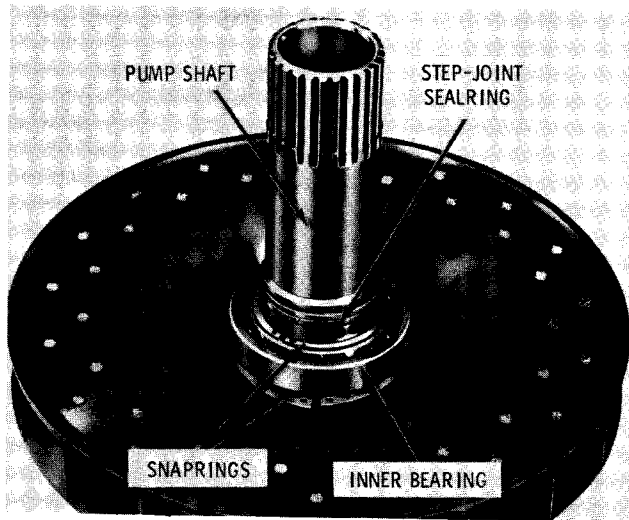
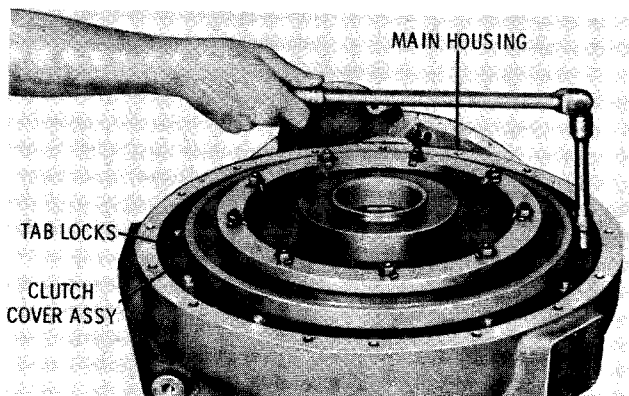

Fig. 5-18. Pump removed from housing
Fig. 5-19. Removing clutch cover assembly (VH series)
(11) Remove the step-joint sealing (fig. 5-18) from the pump shaft. Remove the external snapping from the pump shaft. Using a soft drift and light hammer, tap lightly on the inner race of the bearing and remove the bearing. On the VH series, remove the internal snapping that was previously removed from the converter housing flange in (6), above. On the VS2 series, the snapping was removed in (7), above. Refer to paragraph 6-12 for rebuild of the converter pump assembly.
e. Removing Direct, Hydraulic Clutches (VH)
(1) Straighten the tangs on the tab locks (fig. 5-19) on nine clutch drive plate stud nuts. Remove the nuts and tab locks. Remove the clutch cover assembly from the drive plate